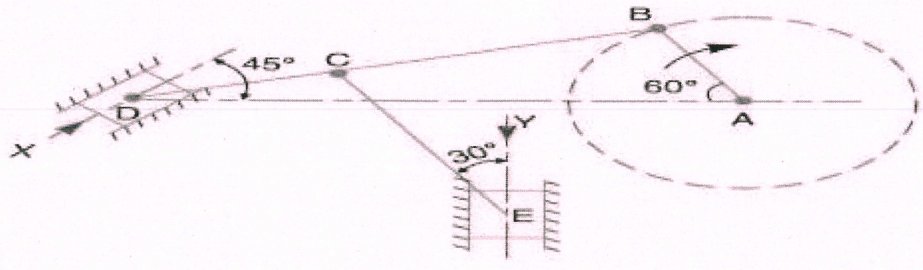

Fig. 7.30
- 5 The dimensions of the mechanism, as shown in Fig. 7.30, are as follows: AB = 0.45 m; BD = 1.5 m; BC = CE = 0.9 m. The crank AB turns uniformly at 180 r.p.m. in the clockwise direction and the blocks at D and E are working in frictionless guides. Draw the velocity diagram for the mechanism and find the velocities of the sliders D and E in their guides. Also determine the turning moment at A if a force of 500 N acts on D in the direction of arrow X and a force of 750 N acts on E in the direction of arrow Y.